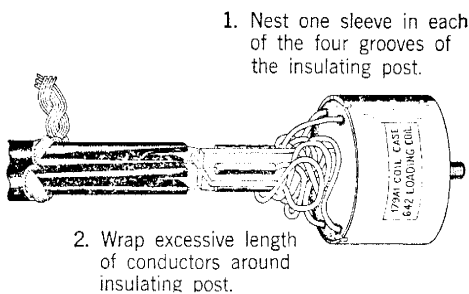

Fig. 11
**2.07** Arrange sleeves on insulating post as shown in Fig. 11.